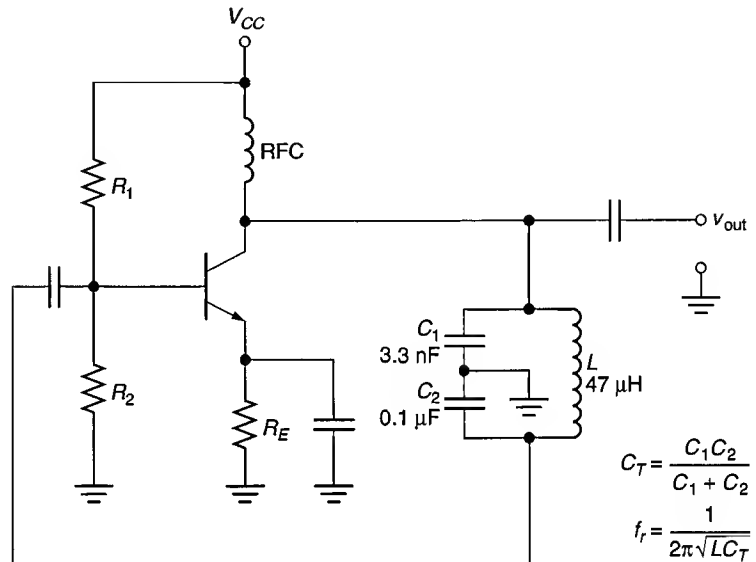

FIGURE 18.13
Determine the value of α_v for the circuit shown in Figure 18.13 using both equations (18.3) and (18.4).
A Colpitts oscillator like the one in Figure 18.13 has the following values: $C_1 = 10 \text{ nF}$, $C_2 = 1.5 \text{ }\mu\text{F}$, and $L = 10 \text{ }\mu\text{H}$. Calculate the value of α_v for the circuit using both equations (18.3) and (18.4).
Also, it is acceptable to use capacitive coupling for the Colpitts oscillator, as shown in Figure 18.13, provided that the following relationship is fulfilled:
6. Identify the following statement as true or false and explain your reasoning: *The higher the Q of the feedback network in Figure 18.13, the more stable the oscillator output frequency.*